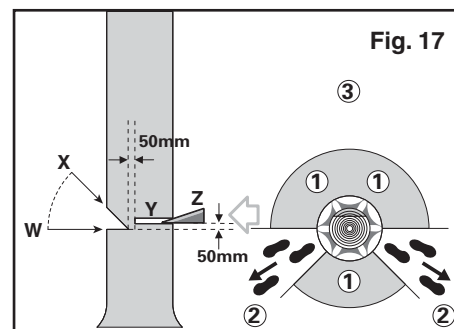

Fig. 17
FELLING TREES (See Fig. 17)
1. **Secure work area (See 1, Fig. 17).** Ensure no persons or animals are in the vicinity of the falling tree. Never attempt to free a jammed saw with the motor running. Use wooden wedges to free chain and guide bar.
2. **An escape path (See 2, Fig. 17)** should be planned and cleared as necessary before cuts are started. The escape path should extend back and diagonally to the rear of the expected line of fall.
3. **Before felling is started (See 3, Fig. 17),** consider the natural lean of the tree, the location of larger branches and the wind direction to judge which way the tree will fall. Remove dirt, stones, loose bark, nails staples, and wire from the tree.